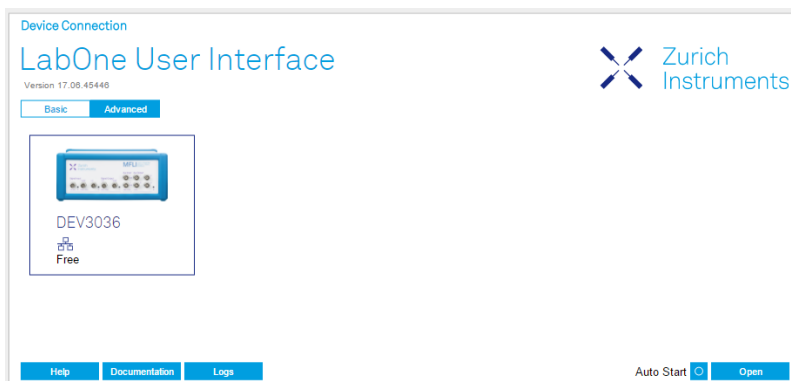

Figure 1.25. Device Connection dialog
4. You can now start the LabOne User Interface as described in Section 1.6 and choose an instrument to connect to via the Device Connection dialog shown in Figure 1.25.
After starting LabOne, the Device Connection dialog in Figure 1.25 is shown to select the device for the session. The term session is used for an active connection between the user interface and the device. Such a session is defined by device settings and user interface settings. Several sessions can be started in parallel. The sessions run on a shared LabOne Web Server.
to the existing session and continue. Thus, within about 15 seconds it is possible with **Retry** to recover the old session connection. The **Reload** button opens the Device Connection dialog shown in Figure 1.25. The figure below shows an example of the Connection Lost dialog.
If a session error cannot be handled, the LabOne Web Server will restart to show a new Device Connection dialog as shown in Figure 1.25. During the restart a window is displayed indicating that the LabOne User Interface will reload. If reloading does not happen the same effect can be triggered by pressing F5 on the keyboard. The figure below shows an example of this dialog.